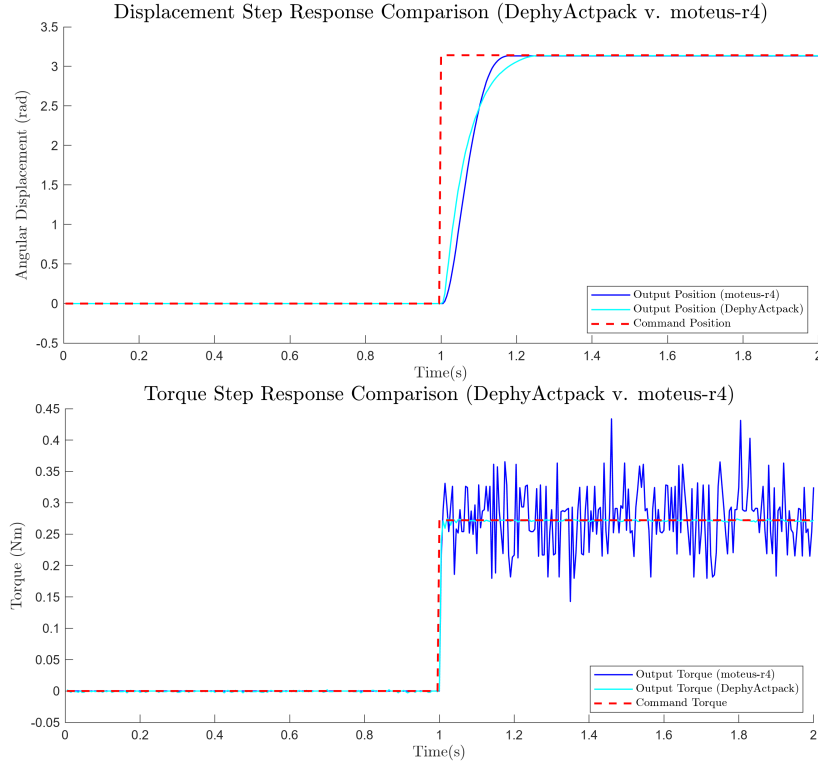

Figure 3: Performance Evaluation & Comparison of Different Actuators on Generalized Library
- Performance evaluation across different actuator choices, as Figure 3